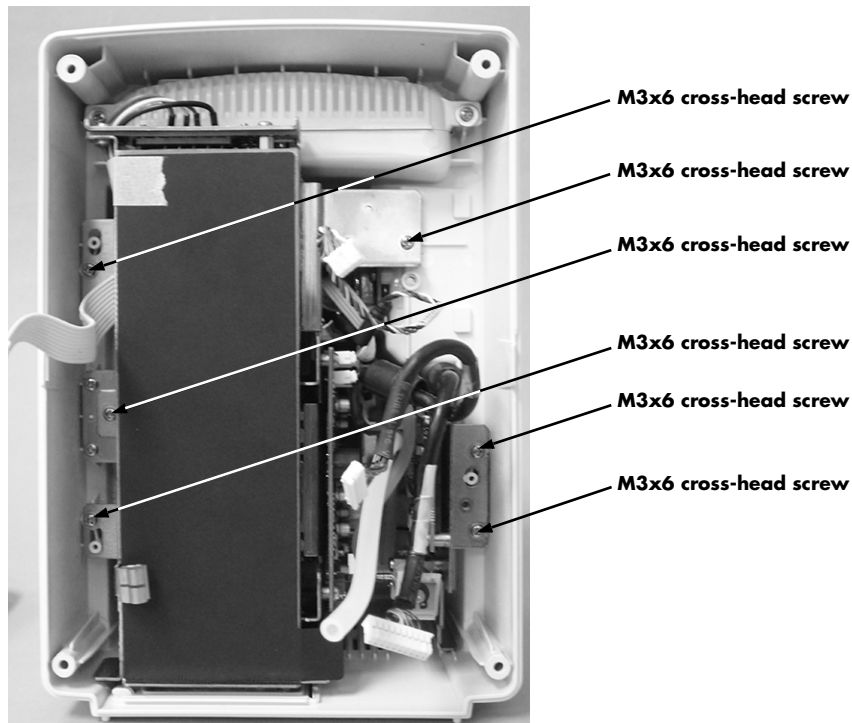

FIGURE 4-15 Remove six (6) M3x6 cross-head screws.
6. Remove the six (6) M3x6 cross-head screws (as shown in Figure 4-15).